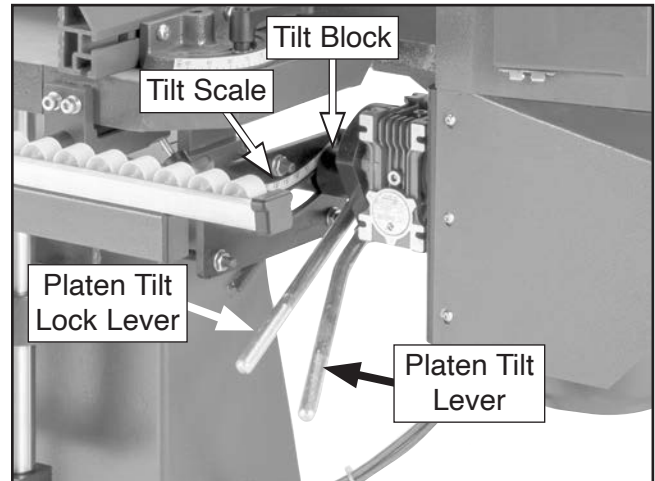

Figure 43. Platen tilt components.
3. While holding platen tilt lever, push platen tilt lock lever toward rear of machine to unlock it, then use platen tilt lever to adjust platen tilt until tilt block aligns with desired angle on tilt scale (see **Figure 43**).